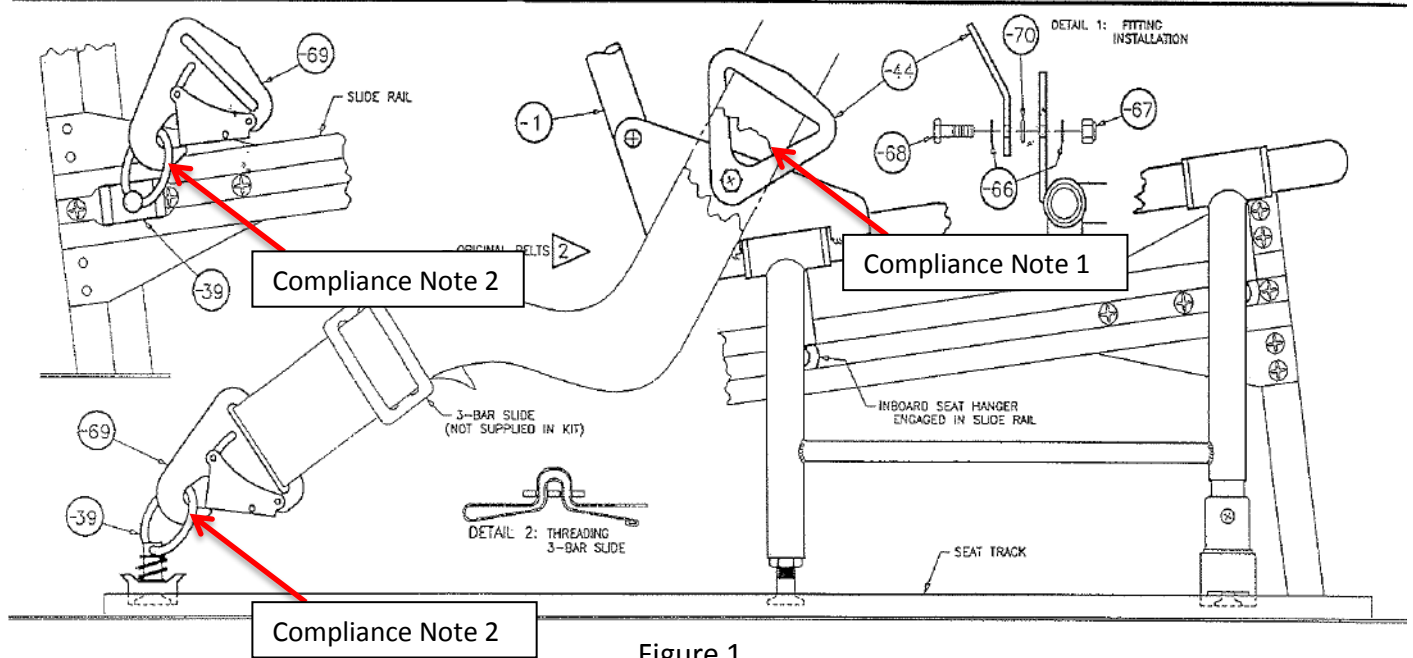

Figure 1
1. Verify the seat belt fitting (part no. 3189-44) is properly installed and the seat belt is routed through the fitting IAW DWG 3187-1, sheet 4 of 4, as seen in figure 1 below.
2. Verify the ends of the seat belt are attached to the slide rail and seat track using the tie-down rings and end fittings IAW DWG 3187-1, sheet 4 of 4, as seen in figure 1 below.